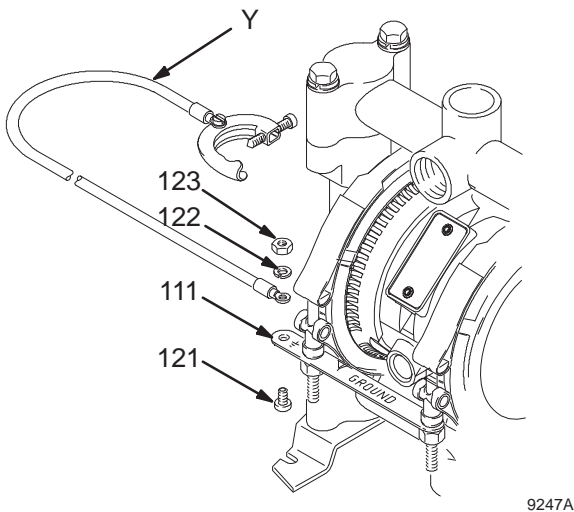

Fig. 1
- *Pump:* attach a ground wire (Y) to the grounding strip (111) with the screw (121), lockwasher (122) and nut (123), as shown in FIG. 1, and per code. Connect the clamp end of the ground wire to a true earth ground. Order Part No. 222011 Ground Wire and Clamp.